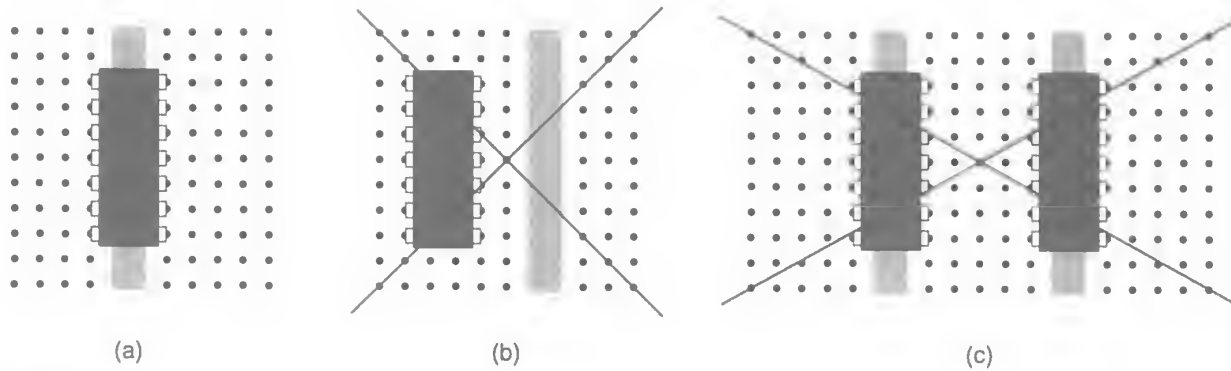

Fig. 3
- Plug in chips so that they straddle the troughs on the proto board. In this way, each pin is connected to a different hole set, as shown in Fig. 3(a). Fig. 3(b) shows a common mistake (for a six-hole set proto board). Why is this practice wrong? You can answer this question by considering how the holes are connected together internally [Fig. 1(b)]. You can also see why the practice shown in Fig. 3(c) for a two-trough board is most likely inappropriate when working with more than one chip.